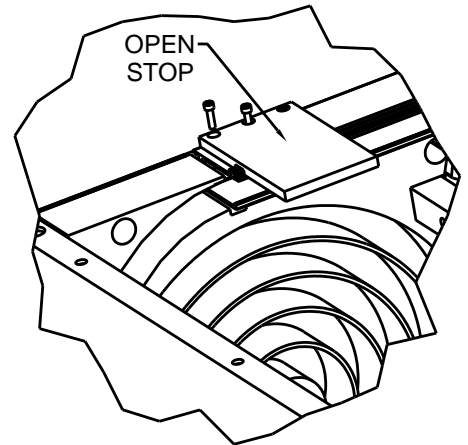

Fig. 5 – Open Stop
- Install stop brackets with enclosed #8 socket head cap screws on spiral end of horizontal track. See Fig. 5.
- Install Open Stop Brackets with #8 Socket Head Cap Screws on Spiral end of Horizontal Track (*Refer back to Fig. 5*).